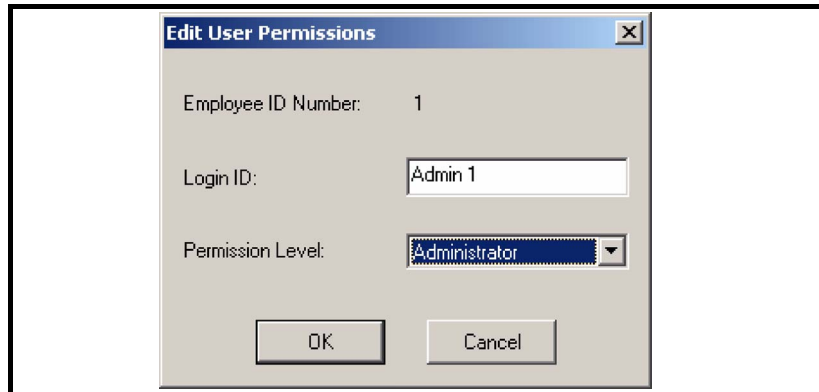

Figure 2-4: *Edit User Permissions* window
7. When the *Edit User Permissions* window opens (Figure 2-4), enter applicable values for these items: